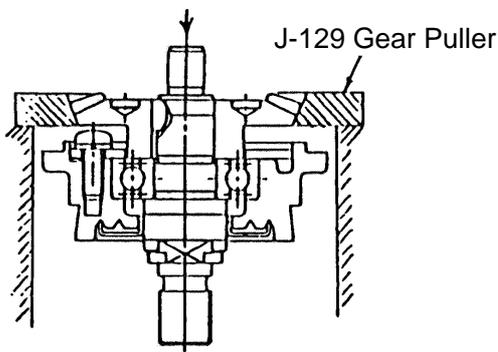

Fig. 4
As illustrated in Fig. 4, support the angled surface of the Gear (22) with a J-129 Gear Puller (special repair tool, Code No. 970905), rest the J-129 Gear Puller on a J-130 Sleeve (special repair tool, Code No.970907), and push down on the tip of the Spindle (31) with a hand press to remove the Gear (22).